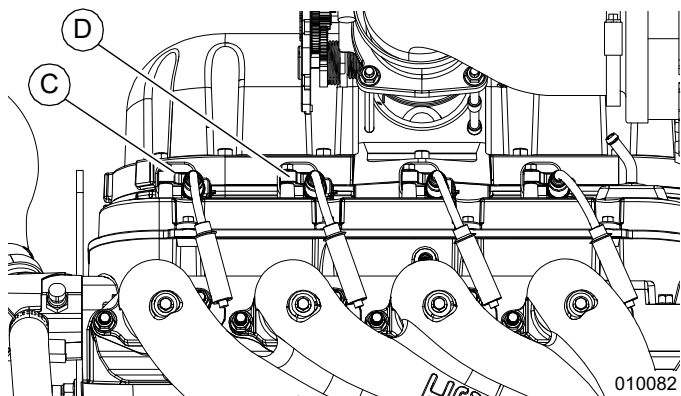

Figure 5-16. Remove Spark Plug Cables
2. See Figure 5-16. Remove spark plug cables (C) from spark plug terminals (D).